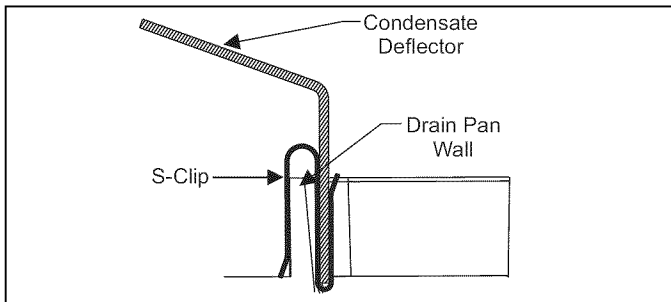

FIGURE 12: S-Clip Installation
1. Position the coil casing over the furnace opening as shown in Figure 12.
Do not drill any holes or drive any screws into the front duct flange on the coil in order to prevent damaging coil tubing (see Figure 12).
NOTE: Dimension "C" should be at least 2/3 of dimension "D". See Figure 12.